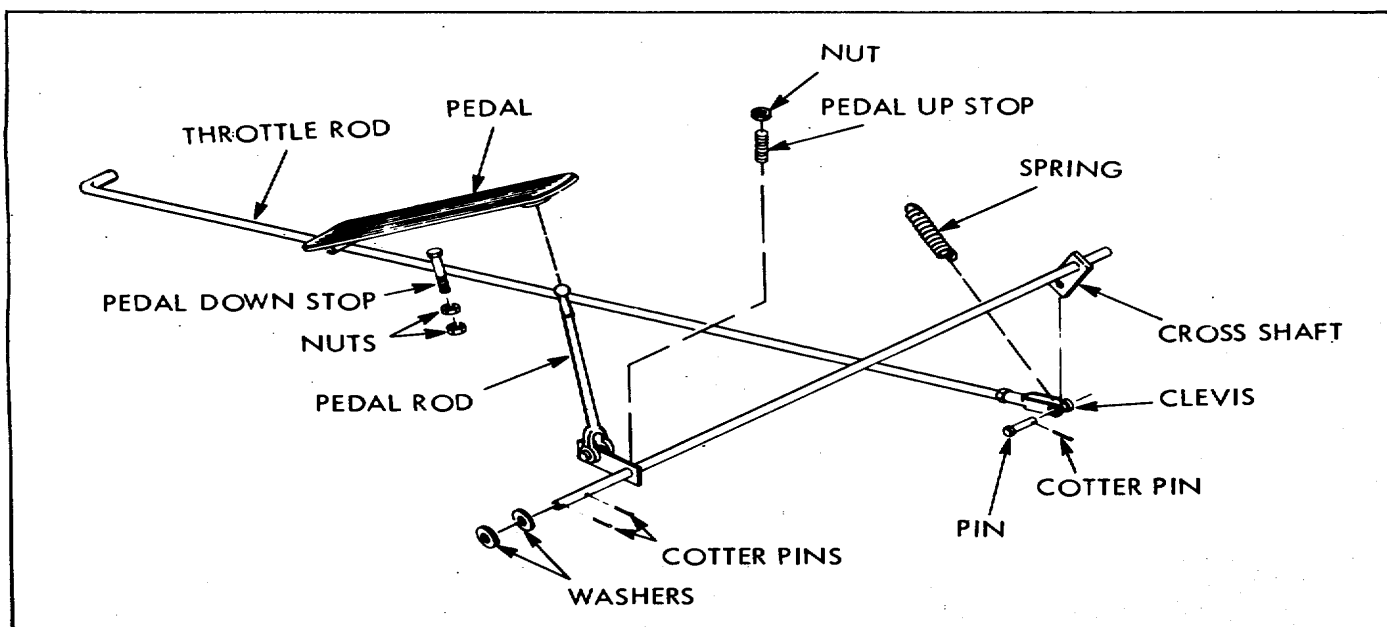

Figure 6-27. Carburetor Linkages
(1) Pull toe end of pedal (Figure 6-27) up until free of pedal rod ball. Unhook return spring at both ends. Remove cotter pins at each end of cross shaft, outer two washers, cotter pin and clevis pin at front of throttle rod, and remove cross shaft and pedal rod.
(2) Remove clip at carburetor end of throttle rod and remove throttle rod.